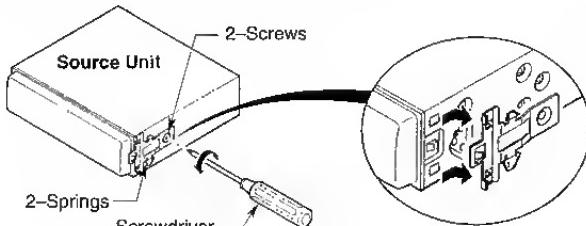

Figure 7
1. Remove the screws at both sides of the source unit and slide the springs to the direction of arrow and remove them (Figure 7).